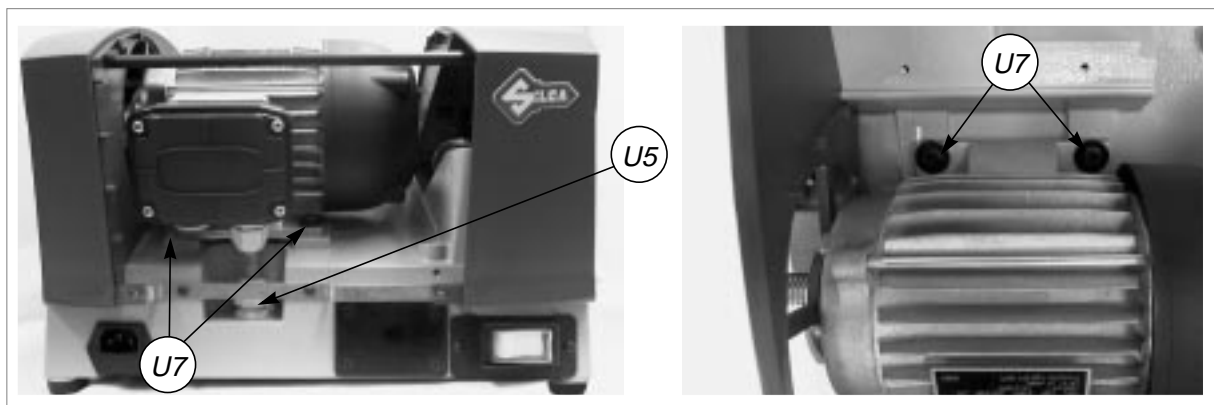

Fig. 35
- 8) Loosen the fairlead (U5) (fig.35).